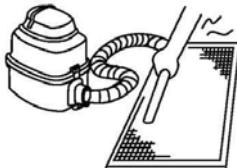

Fig 6-3
- *The air-in side should face up when using vacuum cleaner. (See Fig. 6-3)*